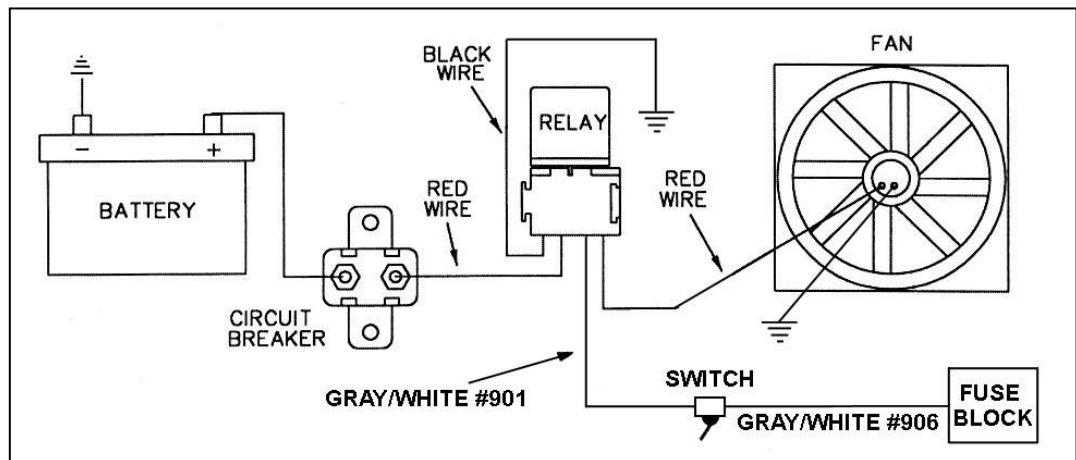

Figure 10-4 Typical Fan Relay Installation (Fan Relay Kit - Painless Part #30101)
- 10.4.4 Connect HEADLIGHT SECTION A wire #901 (gry/wht) to the Electric Fan Relay. This wire is an activation wire for the relay, **NOT A POWER FEED**. The other end of wire #901 is in the ACCESSORY SECTION SWITCHES and should be connected to the electric fan switch in the dash. **Figure 10-4** shows a typical fan relay installation.